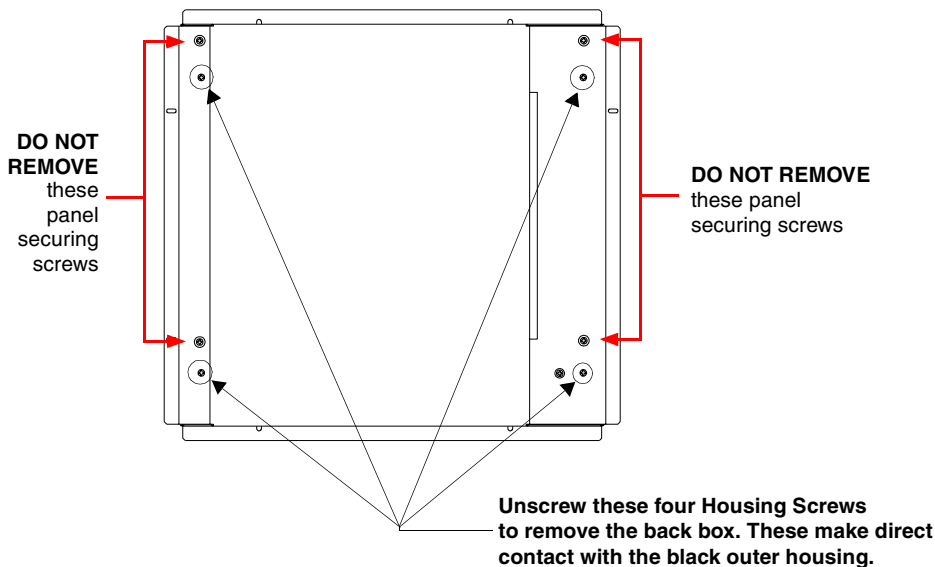

FIG. 32 Location of the attachment screws on the NXD back box
6. Remove the four pan-head Housing Screws from the rear of the NXD unit (FIG. 32). These screws secure the back box to the internal panel casing.